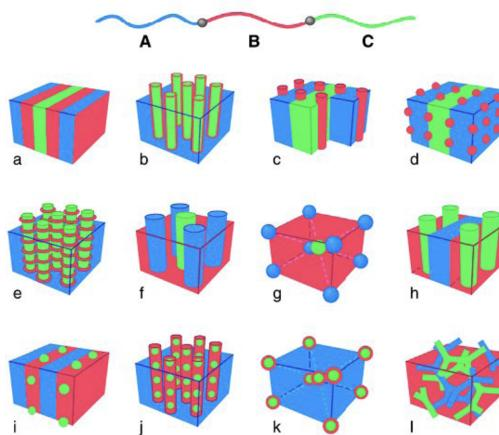

Figure 2.17: Self-assembly of an ABC triblock copolymer.
- If we have something like (a) of Figure 2.17, then we probably have $N_A = N_B = N_C$ (because everything is nice and equally ordered) and $\chi_{AC} < \chi_{AB} \approx \chi_{BC}$ (because we have AB and BC interfaces, but not AC interfaces).
- If we can do everything in Figure 2.17 with 3 things, imagine what's possible with 20 amino acids!
- **Min-max principle:** Phases are most stable when we (1) minimize interfacial energy and (2) maximize the conformational entropy of the chains.